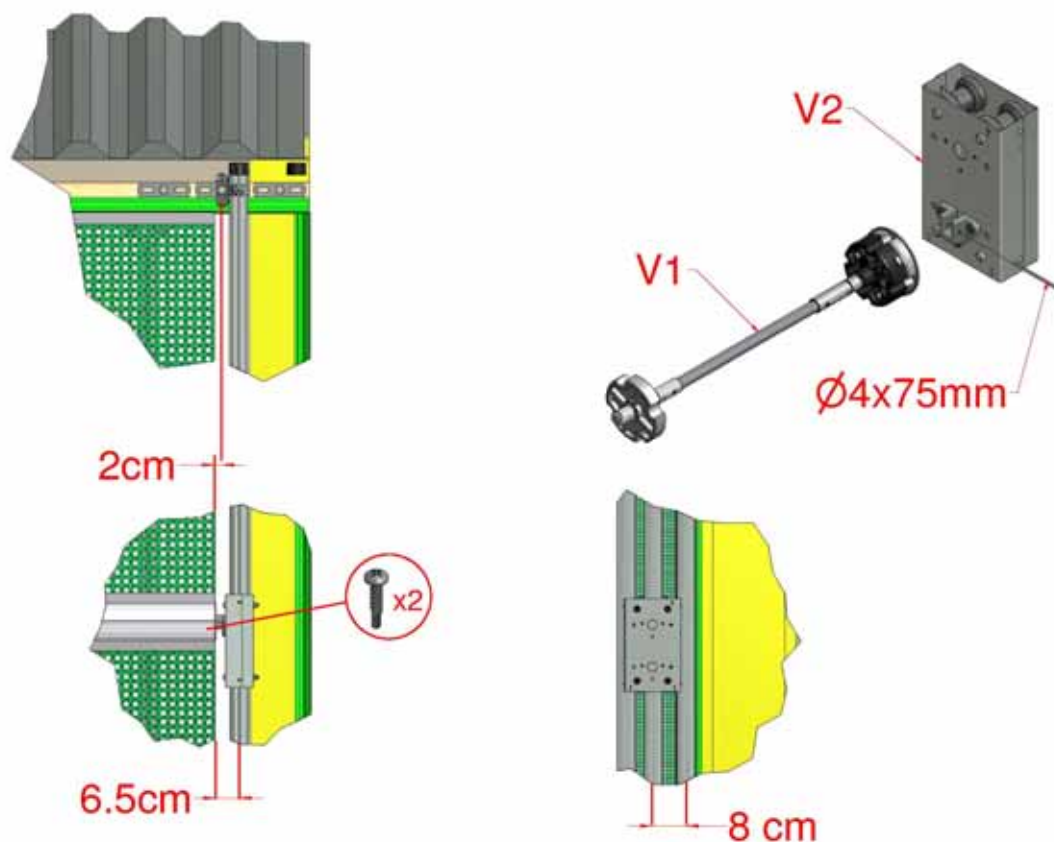

Figure 30, Free End trolley Box
- 6.1 To fit the optional free end Trolley Box fit the additional Face Bracket(s) (E1) to the Free End, see Section 2.1. The end of the Middle Tube needs to finish 2cm from the centre of the upper Face Bracket (E1) or 6.5cm from the centre of the Torque Tube as in Figure 30.
- 6.2 For Face-Face installation pre-drill the holes into the floor for fixing so that the Torque Tube is centred 8 cm from the centre of the inner Control Tube, Figure 30. Slide the Free End Shaft into the end of the Middle Tube and secure with two M4.2x19 self drilling screws.